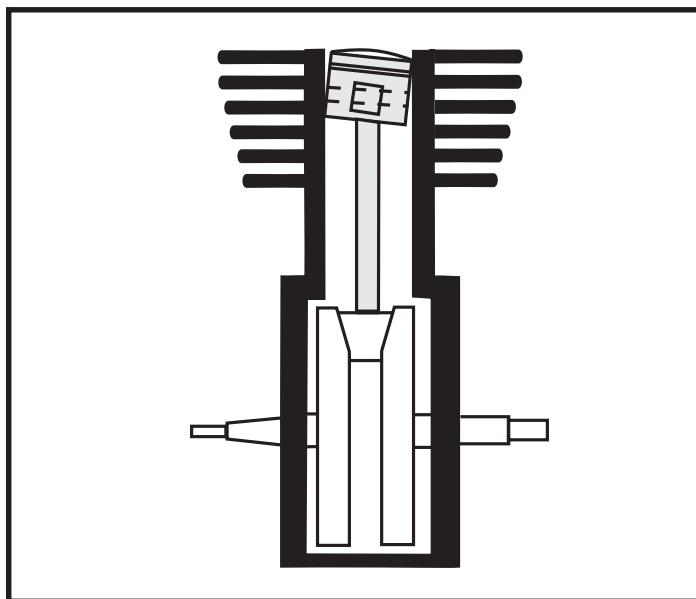

Figure 5
- D. Move piston towards driveside of engine and repeat Step C. If inaccuracies are present due to machining variations in cases, cylinders or pistons, top land of piston deck will appear closer to cylinder wall at one point around circumference. This means that piston is cocked in cylinder bore and can be corrected by bending rod in opposite direction. **Figure 5** shows an exaggerated side view of this condition.